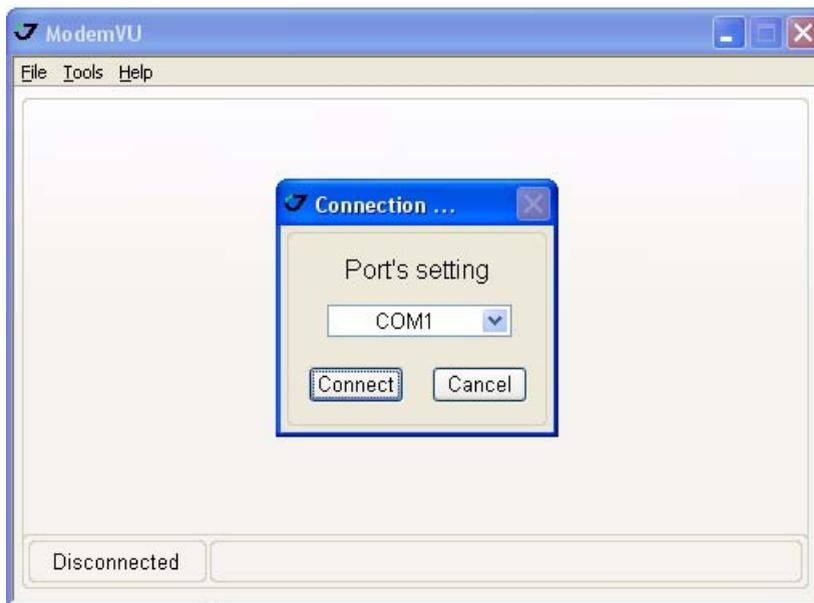

Figure 3-1. Connect to ModemVU
2. Open ModemVU and select the COM port the receiver is connected to (Figure 3-1 on page 43). Click *Connect*.